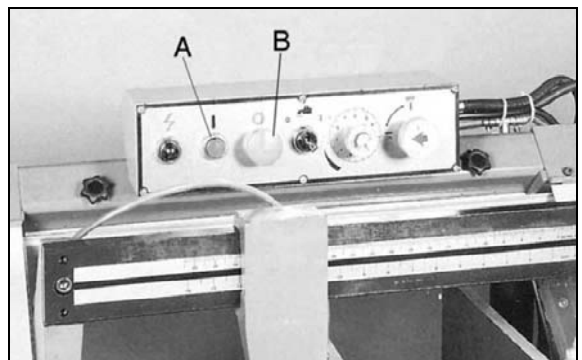

Fig. 4
The saw frame must be in the raised position before starting the machine. The machine is started by pushing the start button (A) Fig.4, and will continue to run until the saw frame is in the down position at the end of the cut, or when the stop button (B) is pushed. Pushing the stop button (B) will stop the motor at any time.